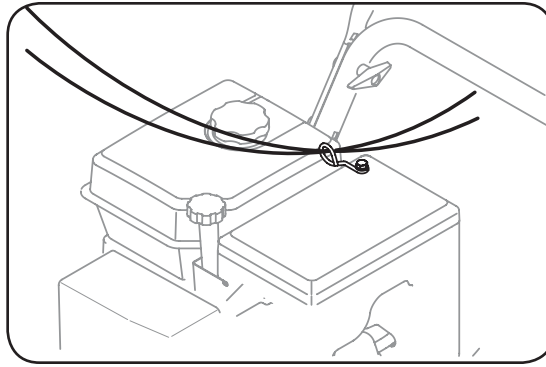

Figure 3-8
- If not already attached, slip the cables that run from the handle panel to the discharge chute into the cable guide. See Figure 3-8.